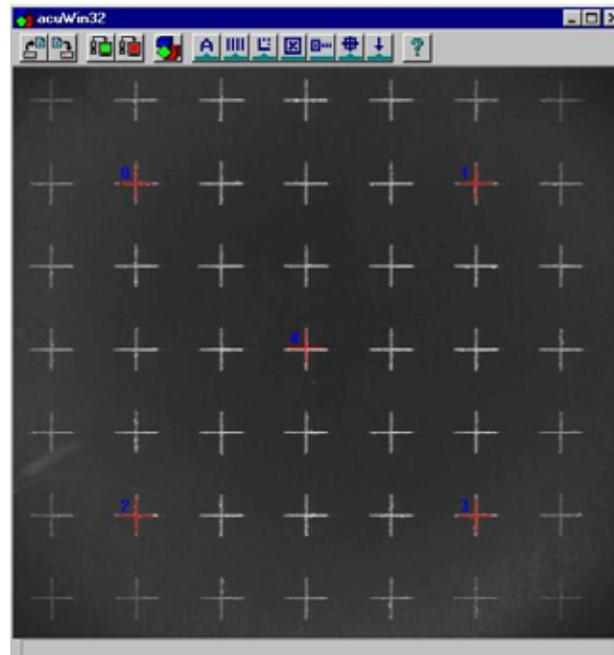

Figure 6-76—Cross hairs line up
- Move the Red Cross Hairs-0, 1, 2 and 3 on top of the four White Cross hairs in the four corners, as shown in Figure 6-76. Between each Red Cross hair, there should be three White Cross hairs.